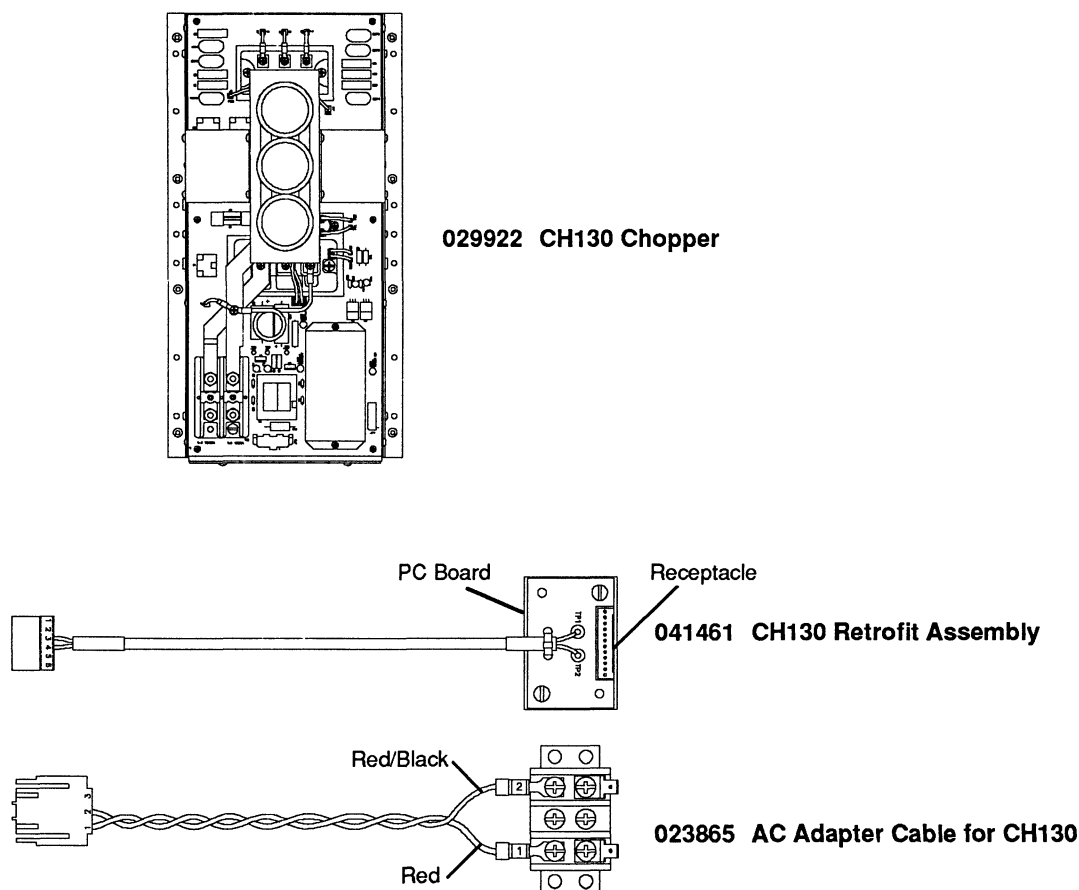

Figure 2-1 - CH130 Chopper Retrofit Kit Components
5. Unplug wire harness assembly from the chopper module - Fig. 2-2b. Plug this same connector into the receptacle on the small PC board portion of the 041461 assembly that came with the kit - Figs. 2-1.